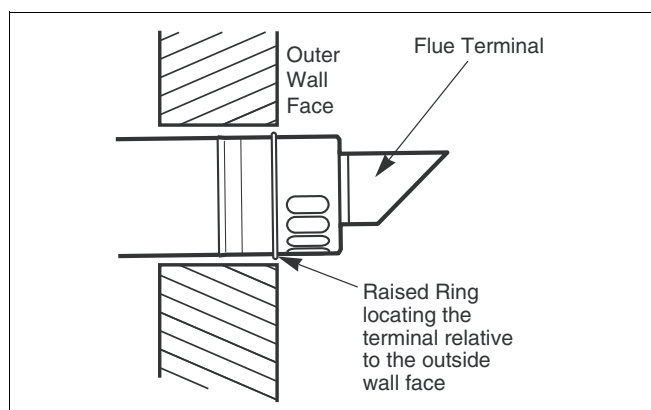

fig. 18 Flue terminal position
- Mark of the lengths shown onto the ducts and cut the length. The cuts must be square and free from burrs. Terminal assembly outer (air) duct - L-70 mm, inner (flue) duct - L-50 mm. The measurement is made from the ridge at the terminal indicating the outer face of the wall. Refer to figure 18.